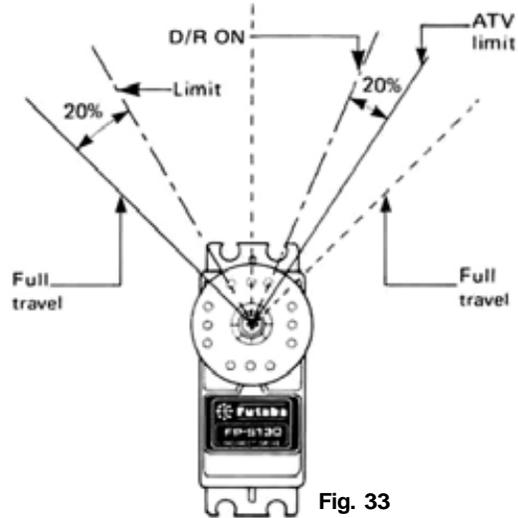

Fig. 33
- When Dual Rate is ON, servo travel in each direction is reduced by the same percentage (adjustable using D/R trimmers). For example, in Fig. 33 one direction has been limited using ATV. Both sides are reduced 20% when D/R is ON. In other words, the ratio of UP to Down will be maintained when D/R is ON or OFF.